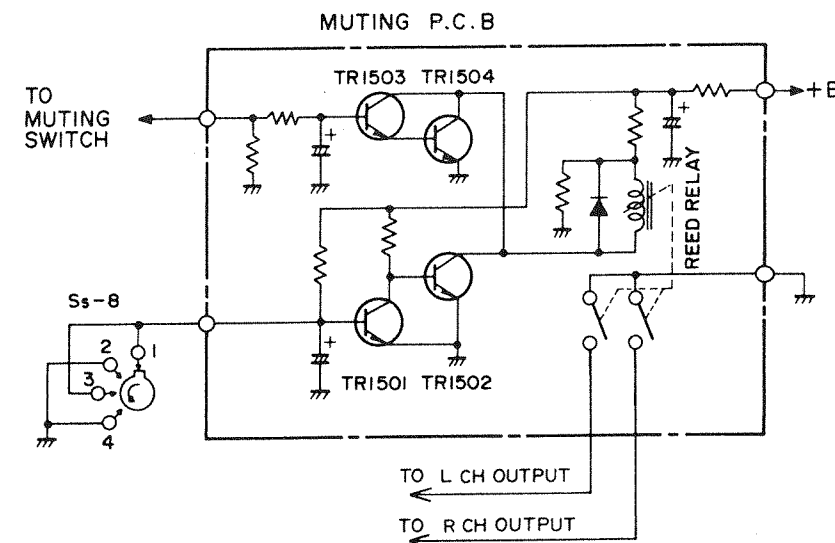

Figure 41
The switch Ss-8 is a shorting type, goes through a short-circuit condition when turning from 1 (AM) to 2 (FM), etc. (it is momentarily grounded). This turns TR1501 off and TR1502 on. Thus, REED Relay is activated and output is cut off. The time constant of R1504 and C1502 allows the cut off condition to last for about one second (before C1502 charges up to a point where TR1501 turns on again, etc.). (Figure 41)